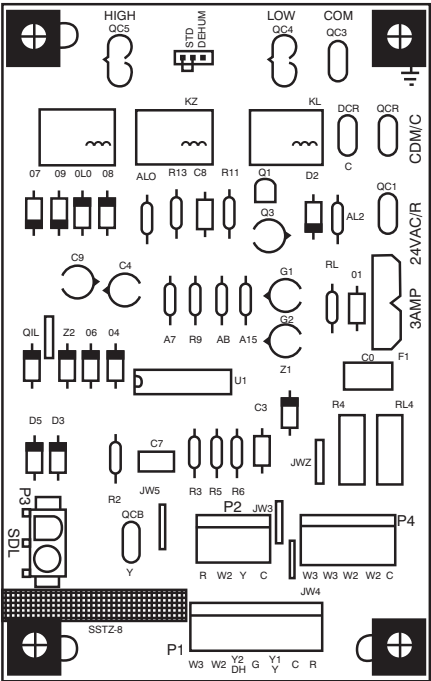

Fig. 16 - Interface Fan Board (IFB)
The cooling speed is marked “LOW” on the interface fan board (IFB) (See Fig. 16) . The factory-shipped settings are noted in Table 5. There are 4 additional speed tap wires available for use in either electric heating or cooling (For color coding on the indoor fan motor leads, see Table 3). The additional 4 speed tap wires are shipped loose with vinyl caps and are located in the control box, near the interface fan board (IFB) (See Fig. 16).
2. Remove the current speed tap wire from the “LOW” terminal on the interface fan board (IFB) (See Fig. 16) and place vinyl cap over the connector on the wire.
1. Using Fig. 16, move the two pin DEHUM jumper from the “STD” position to the “DEHUM” position.
2. Remove fan speed tap wire from the “LOW” terminal on the interface fan board (IFB) (See Fig. 16).
1. Move the two pin DEHUM jumper located on control board (see Fig. 16) from the “STD” position to the “DEHUM” position.
When the DEHUM feature is not used, the continuous fan speed will be the same as cooling fan speed. When the DEHUM feature is used, the continuous fan will operate on IFB “LOW” speed when the DH control lead is not energized, or IFB “HIGH” speed when the DH lead is energized (see Fig. 16).